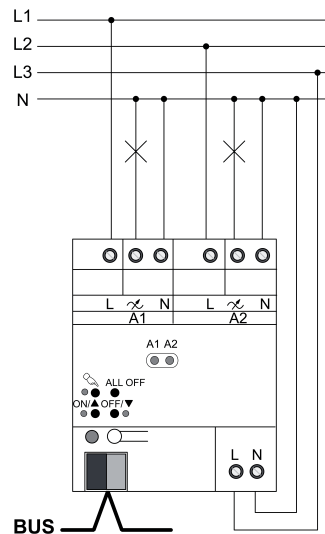

Figure 4: Dimmer actuator – Connection example
- Connect device as shown in the connection example (Figure 4).